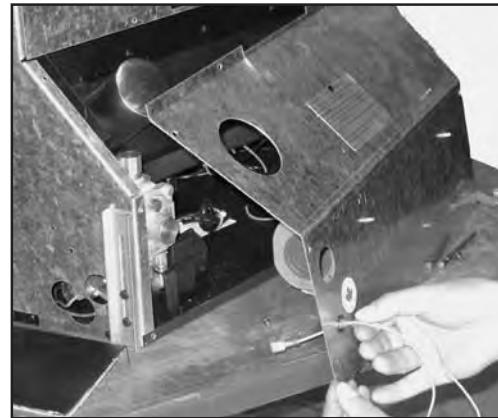

Figure 33: Spill Switch Wires Fed Through Back Panel.
- c) Feed the connector end of both wires through the hole in the bottom left corner of the back panel (see Figure 33).